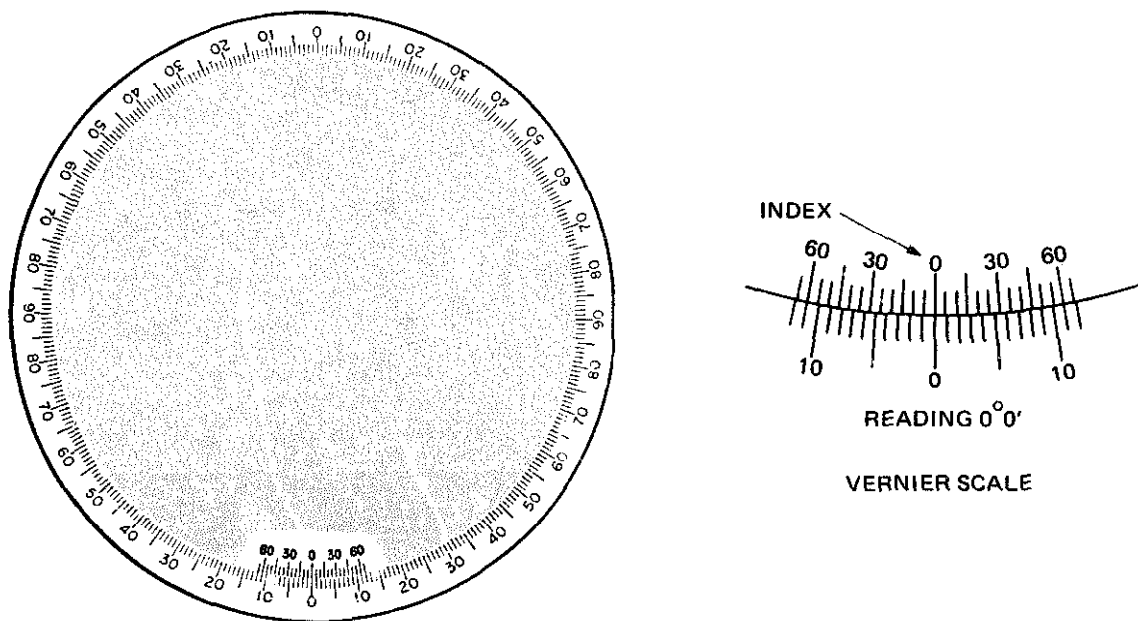
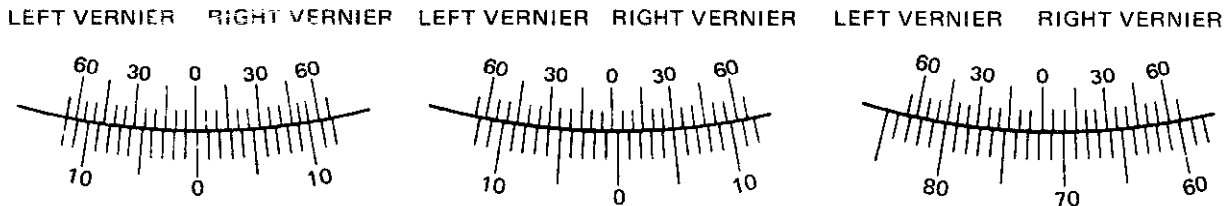

Fig. 5-36 Horizontal circle scale and vernier
Fig. 5-37 Reading
- The *horizontal circle and vernier* is a horizontal circle graduated into degrees with a vernier calibration. This divides the degrees into minutes. It is used for checking or laying out angles on a horizontal plane. (See figures 5-36 through 5-42, and accompanying material, for a detailed discussion.)
To read horizontal angles on the instrument, the horizontal circle and its vernier must be used. The horizontal circle is a complete circle, only part of which can be seen at one time. It is marked in degrees which are numbered in four quadrants. See figure 5-36.
The vernier on the builders' level is a scale that is graduated in fractions of a degree. These fractions are called minutes. Twelve graduations numbered from 0 to 60 are found on each side of the vernier index. The left hand set is used for reading clockwise angles. The right hand set is used for reading counterclockwise angles. To turn the telescope 1/12 of a degree or 5 minutes: (1) the index is placed opposite the zero on the circle as shown in figure 5-36; and (2) then the instrument is turned slightly clockwise until the first mark to the left of the index is made to meet with the 1 degree mark to the left of zero on the circle (figure 5-37).